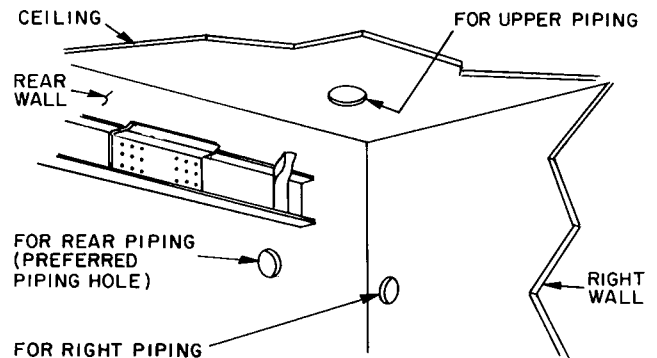
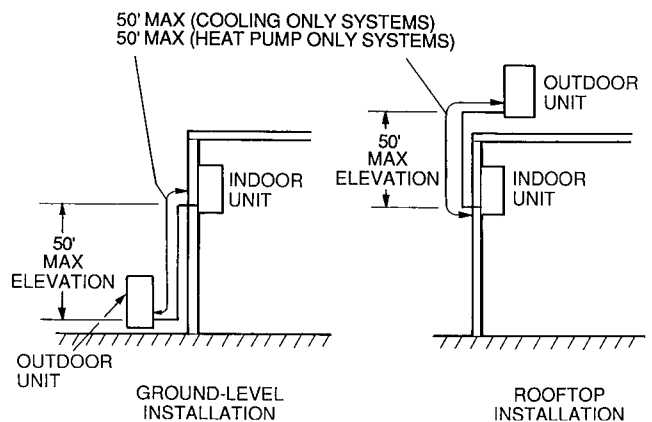

Fig. 4 — Wall Holes for Piping Connections
Fig. 5 — Maximum Line Lengths
7. Refrigerant piping can enter the unit through the pre-punched sheet metal holes. Refrigerant piping can run up or down along the wall, to the right along the wall, or straight through the wall or into the wall (Fig. 4). Once the piping is through the wall, it can run inside walls, in ceilings, between floors, or straight to the outside. See Fig. 5 for maximum line lengths.